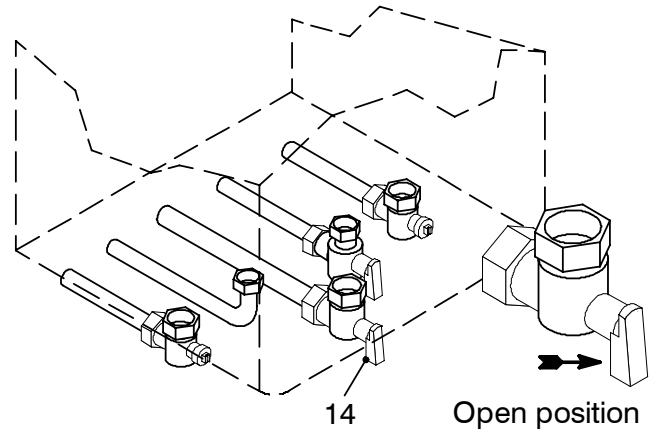

Fig. 8.7
- 15 Open the gas cock (14 in Fig. 8.7)